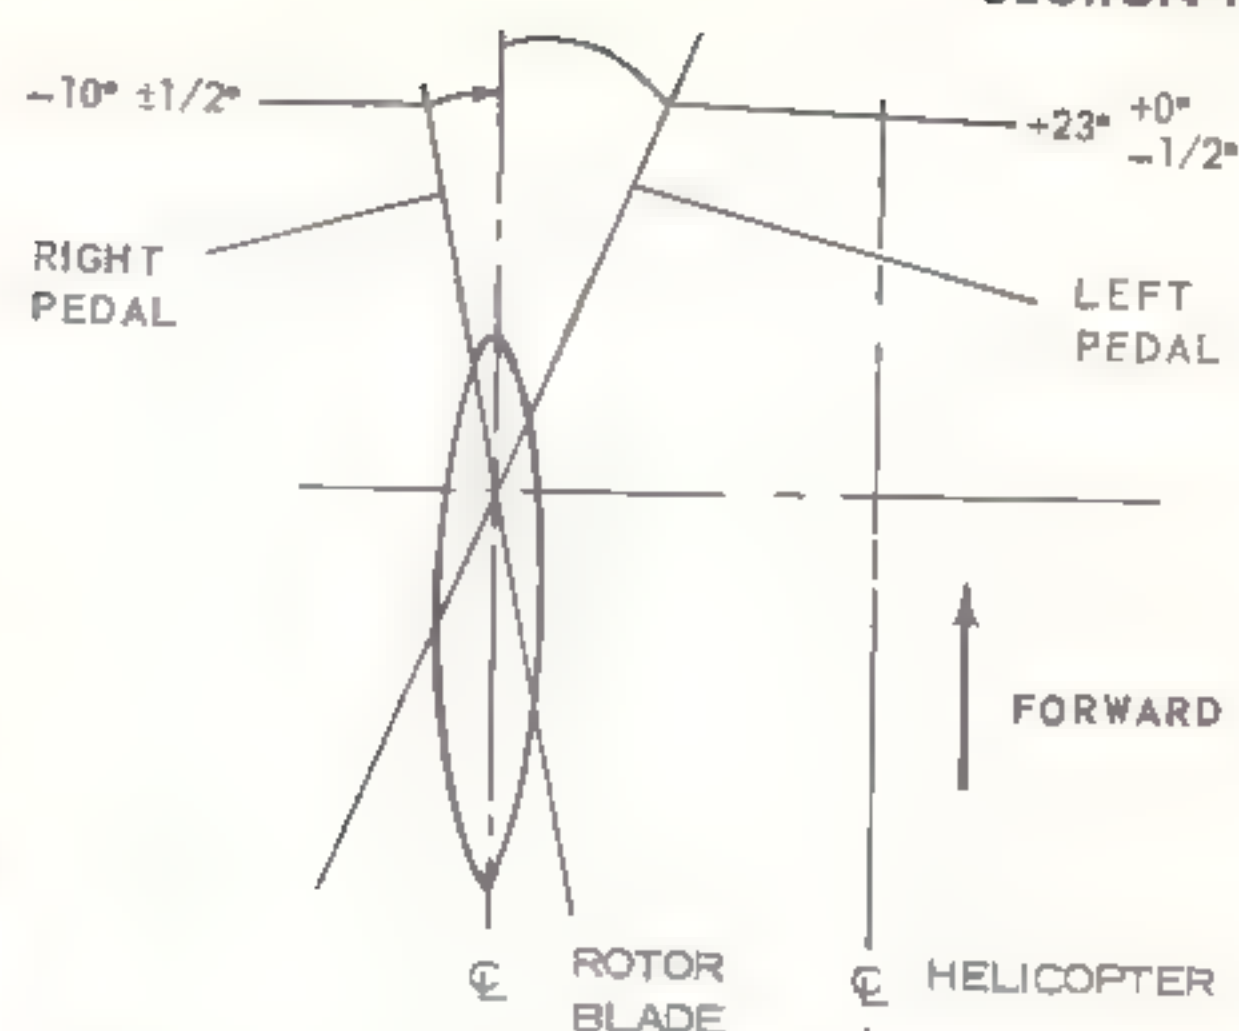

Figure 8-13. Tail rotor rigging angles (without counterweight)
blade for a reading of $+23 + 0 - 1/2$ degrees. (See figure 8-13.)
(10) Rotate tail rotor until one blade is pointing forward. Place a level on leading edge and insure that leading edge is level.
(11) Place protractor on flat of blade sleeve just outboard of two blade attaching bolts. Measure blade angle for a reading of $-10 \pm 1/2$ degrees. (See figure 8-13.)
(12) If necessary, adjust tail rotor servo adjustable stop to obtain proper blade angle.